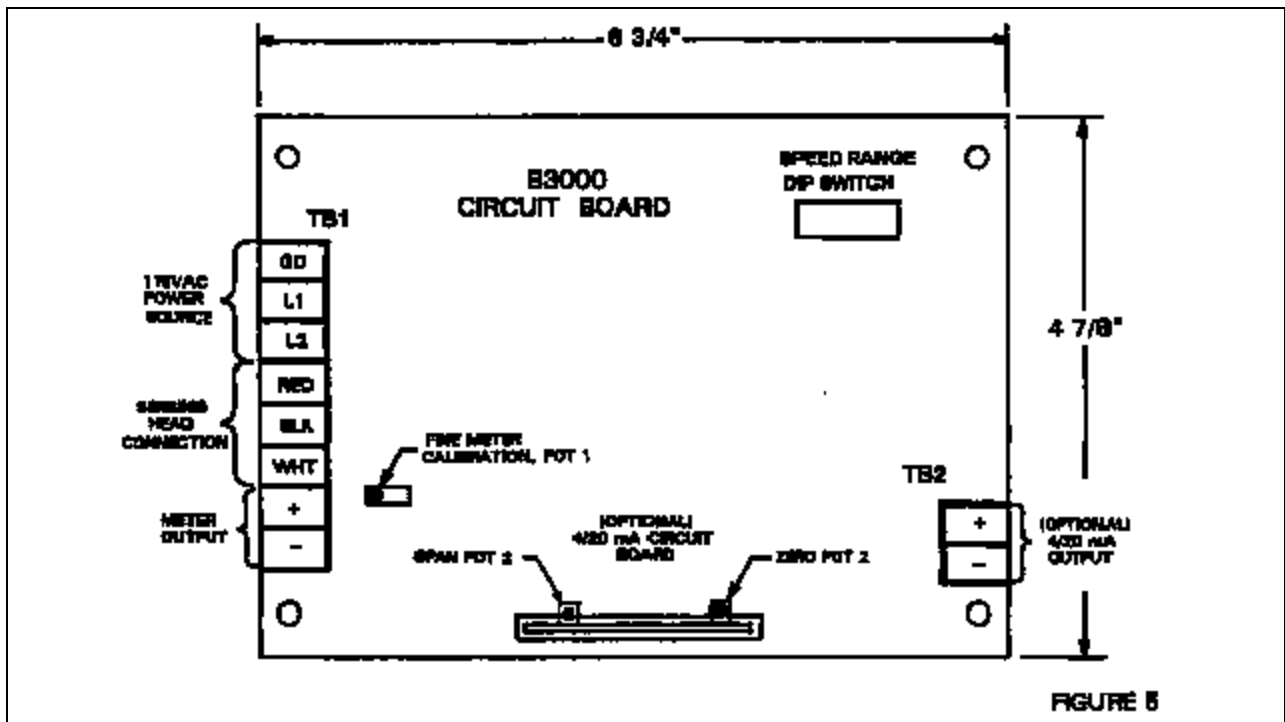

FIGURE 5
(see figure 5, page 6 and figure 3A, page 4)
5.3.1 Connect 115 VAC power to terminals L1 and L2 of terminal block TB1. (see figure 5, page 6)
(see figure 5, page 6)